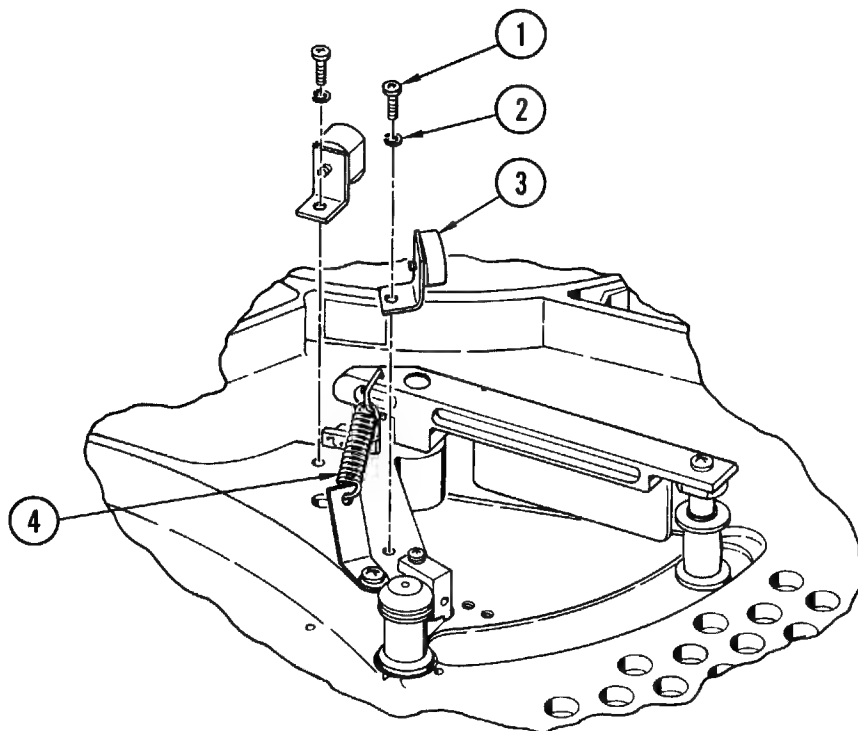

Figure 4-20. Compliance Arm Bumper Assembly
4-34. Removal and Replacement (Figure 4-20). With the transport in operator maintenance position (paragraph 4-2), proceed as follows:
- a. Remove screw (1, Figure 4-20), lockwasher (2), and bumper assembly (3).
- b. Reinstall in reverse order of removal, and adjust to contact compliance arm squarely. Ensure spring (4) does not touch bumper in the compliance arm's full arc of travel. Reposition bumper to clear spring if required.